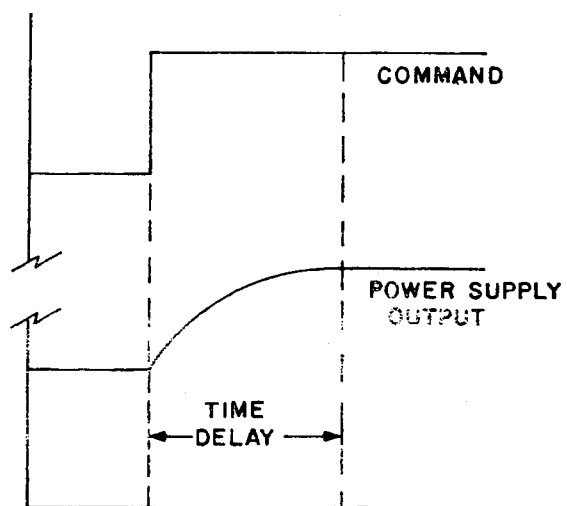

FIG. 3-1 RELATIONSHIP OF INPUT COMMAND AND POWER SUPPLY OUTPUT.
- 3-44 If the recommended time delays are not respected and the status command (STA) is given too soon, the received response may not represent the true operating status of the connected power supplies, since they have not yet reached the commanded level (See FIG. 3-1).